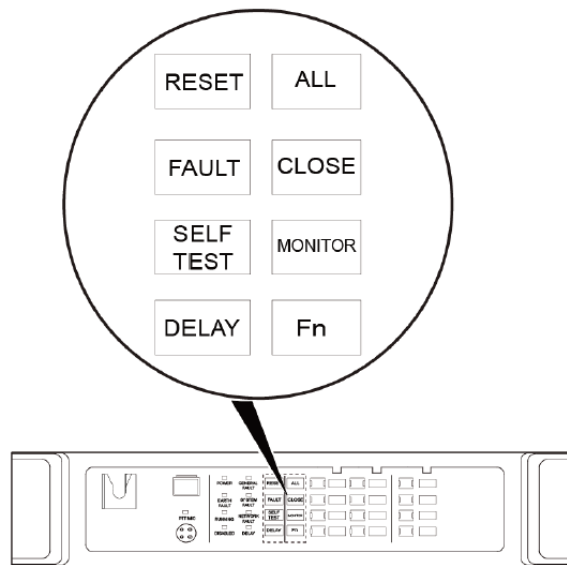

Figure 4 Schematic Diagram of the ZS-2000M Special Function Buttons
- 5.- **Function buttons:** figure 4 is the schematic diagram of the ZS-2000M function buttons. Refer to Table 3 for relevant descriptions..